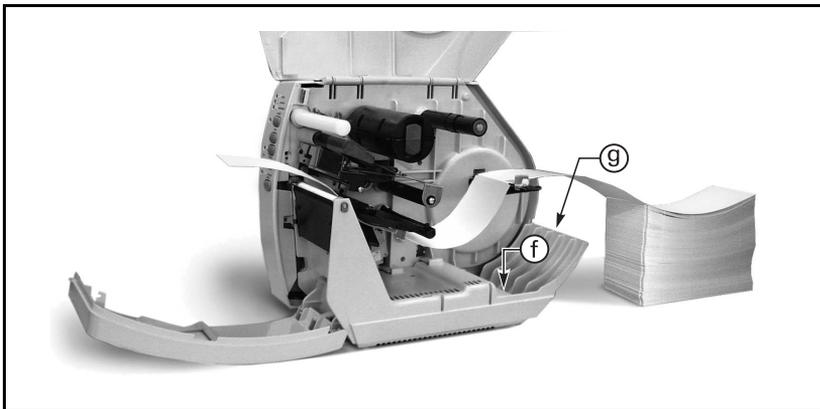

Figure 8. Loading — Fanfold Media
6. Refer to Figure 8. Make sure the fanfold media feeds through either the bottom (f) or rear (g) access slot.
7. Thread the media through the printhead as shown in Figure 8.